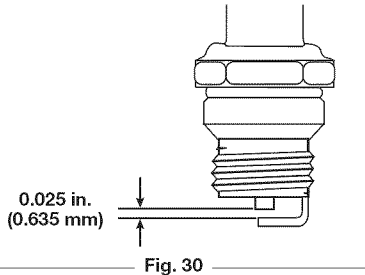

Fig. 30
4. Replace cracked, fouled or dirty spark plug. Set the air gap at **0.025 in. (0.635 mm)** using a feeler gauge (Fig. 30).